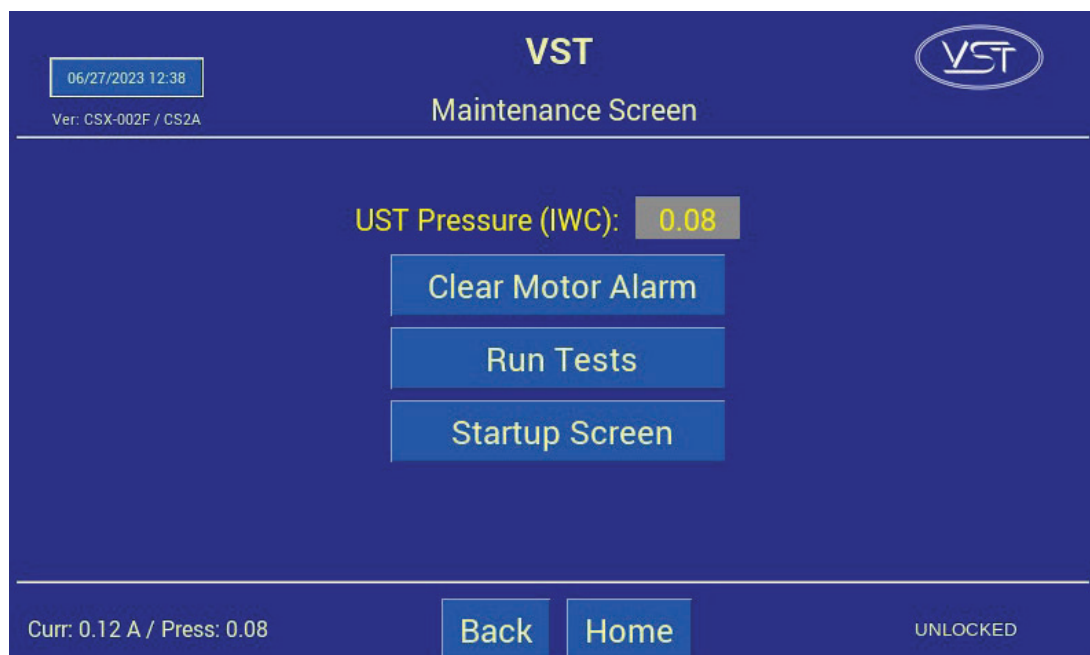

Figure 9-26: Maintenance Screen
2. Make sure the Maintenance Screen is showing on the PLC. **See Figure 9-26 and 9-27.** (The GREEN MACHINE is now in the Manual OFF mode and will not operate.)
8. At the GREEN MACHINE PLC, enter the Maintenance Screen with the password 878. Enter the Test Screen and select Leak Test. **See Figure 9-26 and 9-27.**